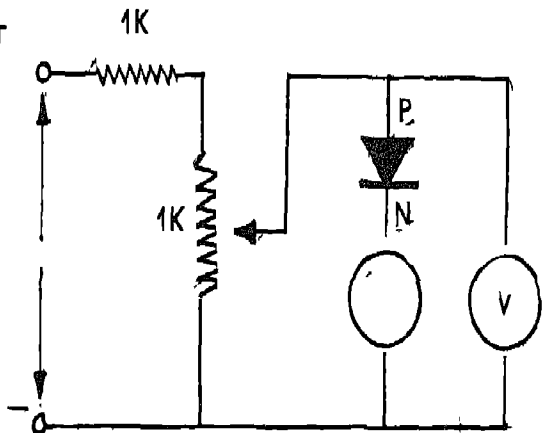

Fig. 2.2
1. Make the connections as shown in Fig. 2.2, but do not connect the diode.